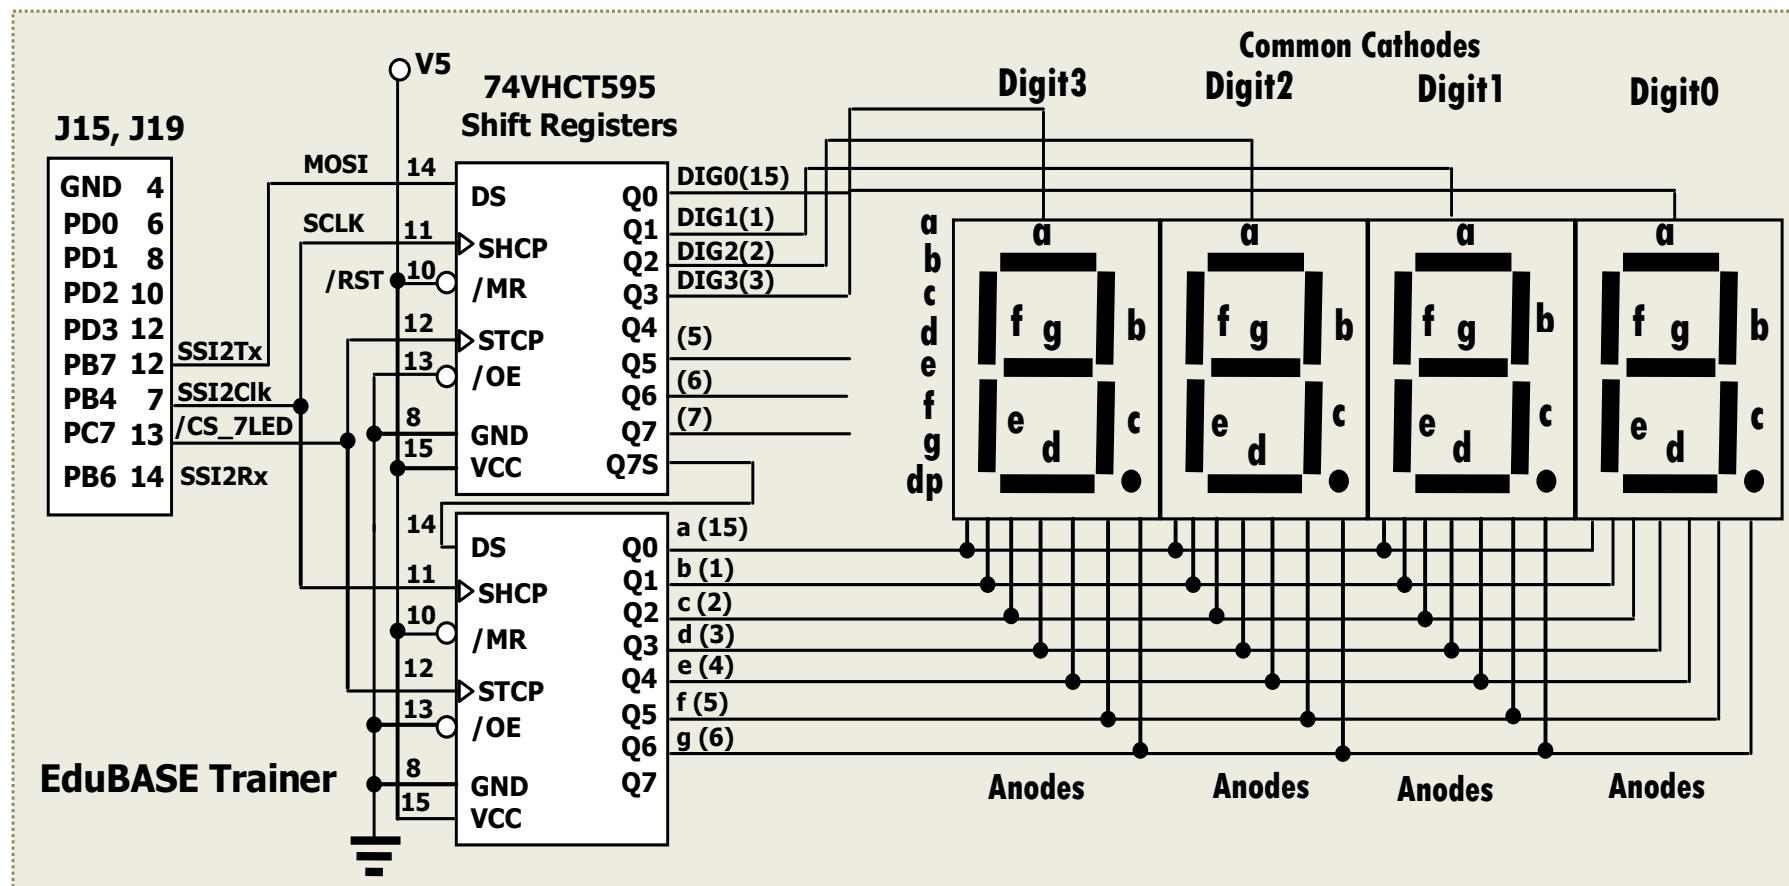

Figure 8.32 The hardware configuration of 74VHCT 595 and 7-segment LEDs.
- A functional block diagram of this interface circuit is shown in Figure 8.32.
- It can be found from Figure 8.32 that **two** serial shift registers **74VHCT595** are **cascaded** or serial connected together to form two 8-bit parallel outputs to perform the LED digit-selection and 7-segment selection functions.
- The hardware configuration of this project is shown in Figure 8.32.
- The **OE** pin is connected to **ground** to enable 8 latched outputs to be directly transferred to the output pins (Figure 8.32).